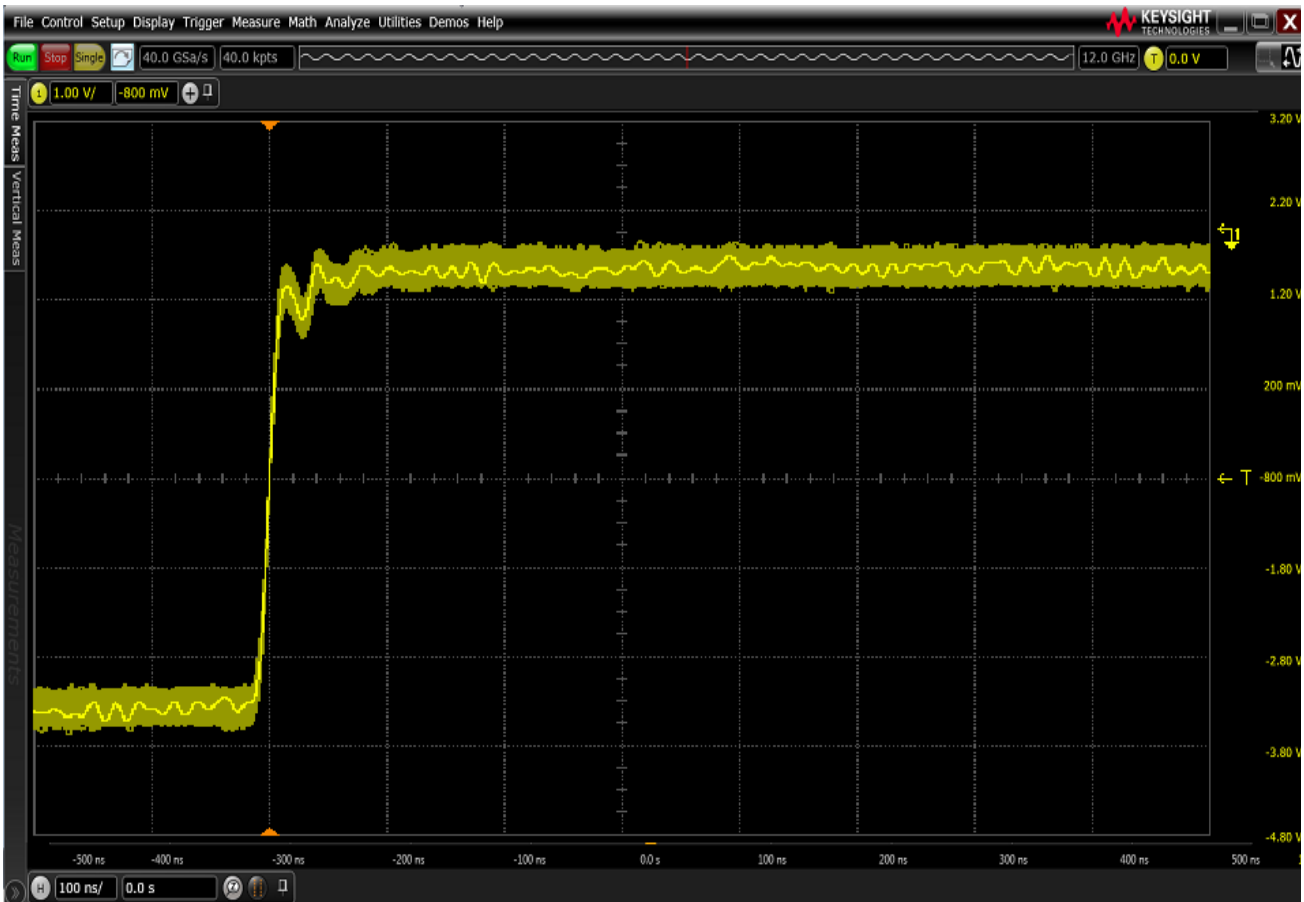

Figure 50 Example of a Good Connection Waveform
- 4 Set the horizontal position to approximately 3 ns. You should see a waveform similar to that in Figure 50 below.